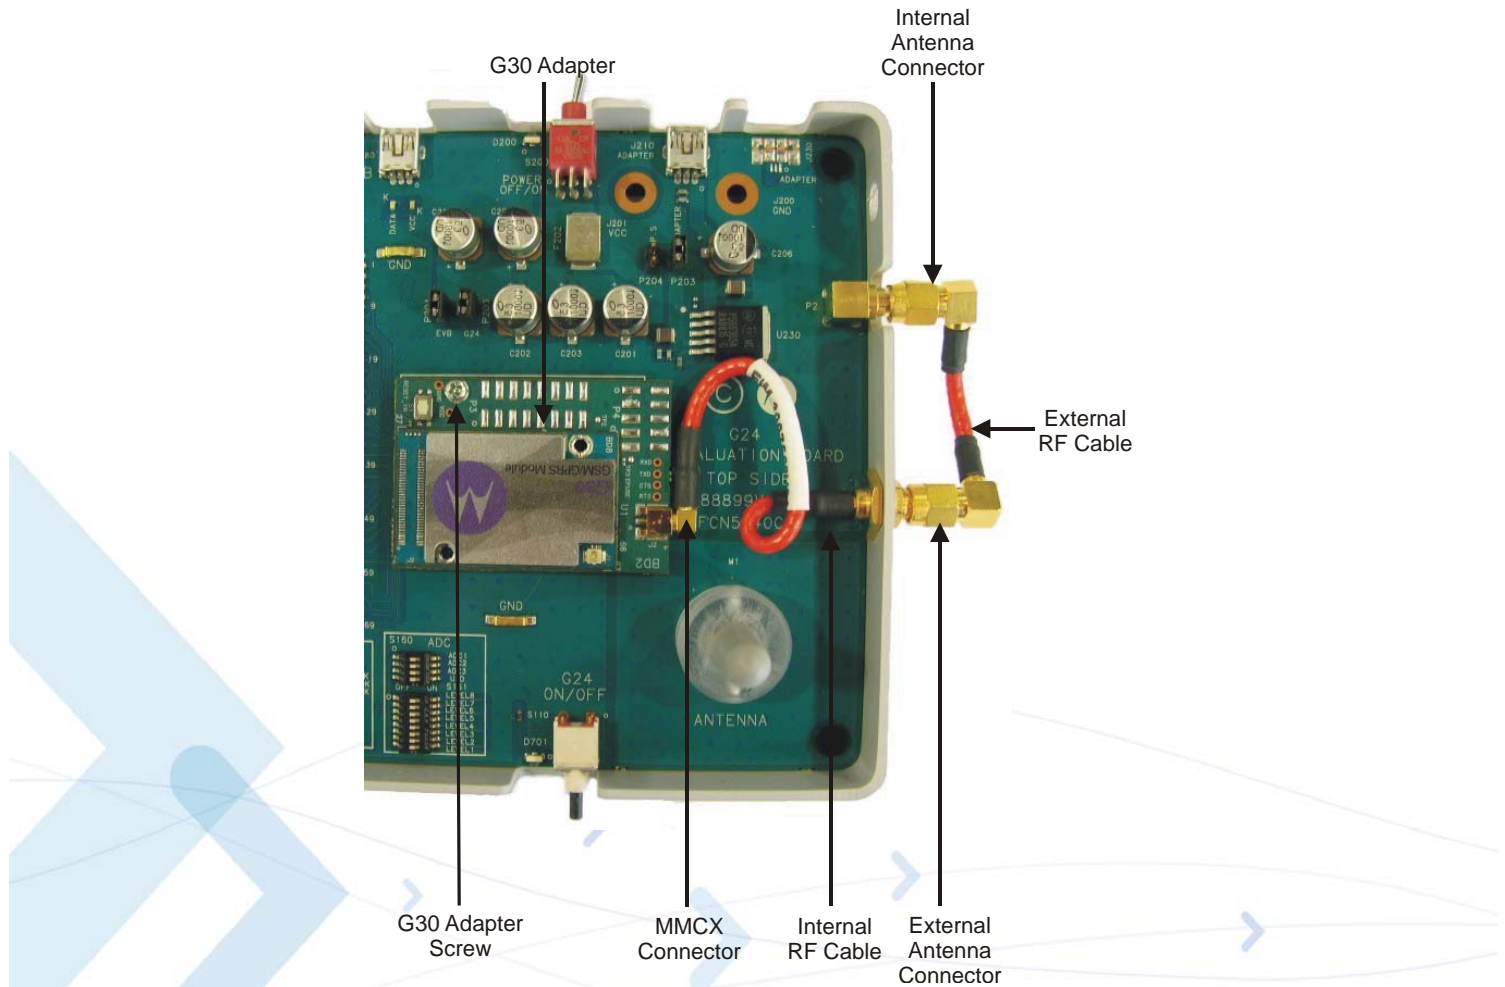
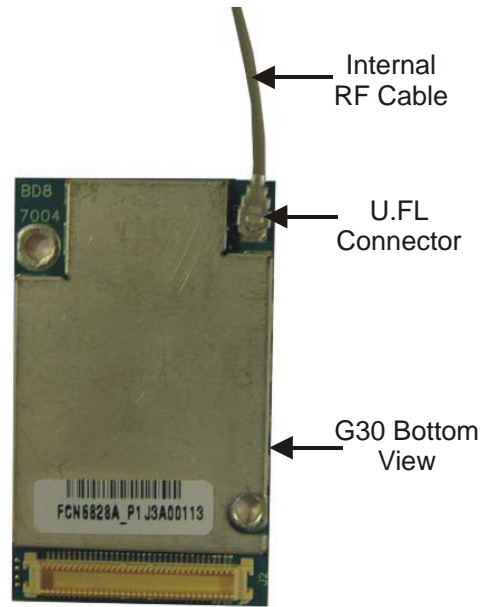

Figure 2-2: Connecting the G30 Adapter
Figure 2-3: Connecting the U.FL Connector to the G30
1. Place the G30 adapter (Figure 2-2) on the Developer Board area, marked by a white rectangle, and push the G30 adapter 70-pin connector down into the G30 70-pin connector on the Developer Board.
3. Connect the internal RF cable MMCX connector to the MMCX connector of the G30 adapter by pushing it in until it clicks (Figure 2-2).
5. Connect the external RF cable between the External Antenna Connector and the Internal Antenna Connector (Figure 2-2).
1. Connect the internal RF cable U.FL connector to the U.FL connector of the G30 by pushing it until it clicks (Figure 2-3).
*The Developer's Kit arrives configured to operate with its on-board internal antenna. The **EXT ANT** and **INT ANT** connectors are connected together using an external RF cable, on the board's right side (Figure 2-2 and Figure 2-3).*